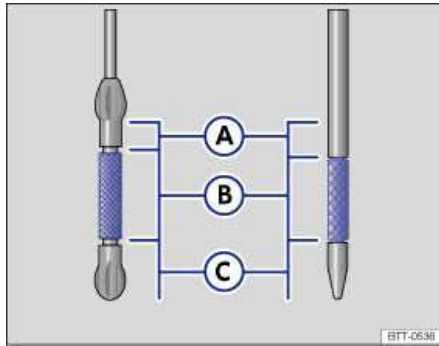
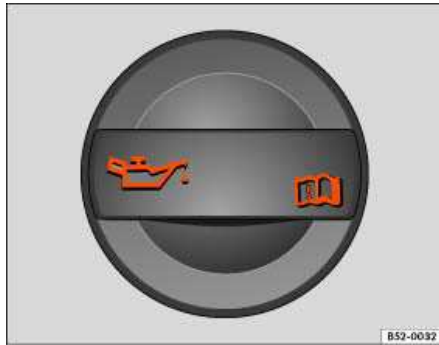

Fig. 139 Oil dipstick with engine oil level marks.
Fig. 140 In the engine compartment: Engine oil filler cap.
4. Find the oil filler opening and the dipstick. You can identify these by the  symbol on the engine oil filler cap ⇒ fig. 140 and the colored handle on the dipstick. If you are not sure where the cap and the dipstick are located, see your authorized Volkswagen dealer or authorized Volkswagen Service Facility for assistance.
7. Remove the dipstick again and read the oil level on the dipstick ⇒ fig. 139 as described below:
- (A): **Do not** add any oil ⇒ . Continue with step 15.
- (B): Oil may be added (about 1 pint / 0.5 liter). Continue with step 8 or step 15.
- (C): **You must** add oil (about 1 quart / 1.0 liter). Continue with step 8.
9. Remove the cap on the engine oil filler opening ⇒ fig. 140.
13. After adding oil, the level must at least be in the center of the ⇒ fig. 139 \(B\) area, but never above (A) ⇒ .